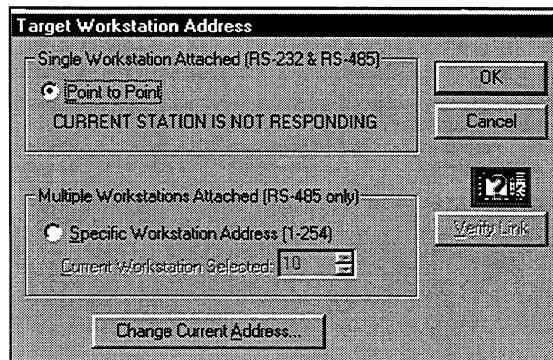

Figure 12-4. Target Workstation Address Dialog Box
2. Select the Target Workstation button to change the target workstation address or verify the link between a target workstation and the development system workstation. This opens the Target Workstation Address dialog box, as shown in Figure 12-4.